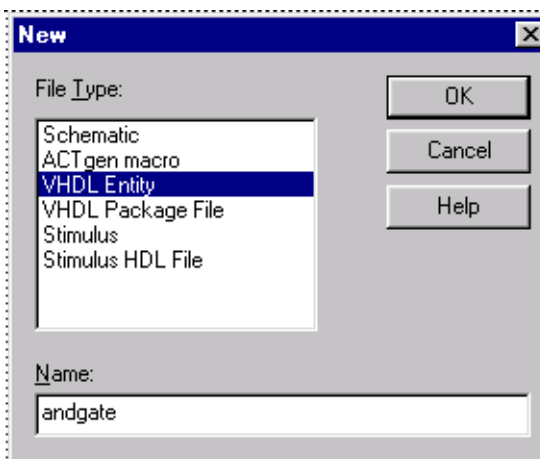

Figure 5-2. New File Dialog Box
8. From the File menu, click *New*. This opens the New dialog box, as shown in Figure 5-2.